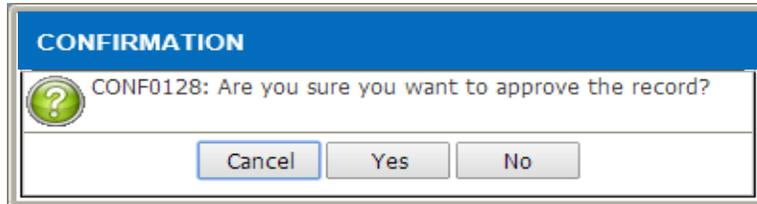

Figure 3.2-3 Approve Record Alert Message
- Click on the  button in Figure 3.2-3 followed by the  button in Figure 3.2-4.  button will be enabled for the user to proceed with disseminate process.